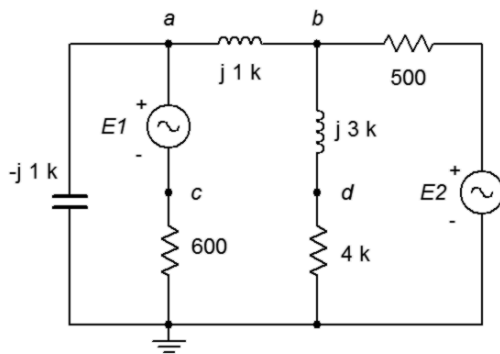

Figure 6.5
- Given the circuit in Figure 6.5, use mesh analysis to determine v_{cd} . $E1 = 0.1\angle 0^\circ$, $E2 = 0.5\angle 0^\circ$.
- Use mesh analysis to find the current through the $600 \text{ }\Omega$ resistor in the circuit of Figure 6.5. $E1 = 9\angle 0^\circ$, $E2 = 5\angle 40^\circ$.
50. Given the circuit in Figure 6.5, use nodal analysis to determine v_{ad} . $E_1 = 9\angle 0^\circ$, $E_2 = 5\angle 40^\circ$.